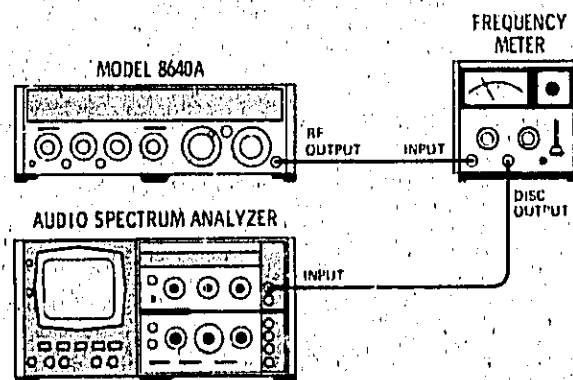

Figure 5-12. FM Linearity Adjustment (Alternate) Test Setup
1. Connect equipment as shown in Figure 5-12 after setting Signal Generator's controls as follows: